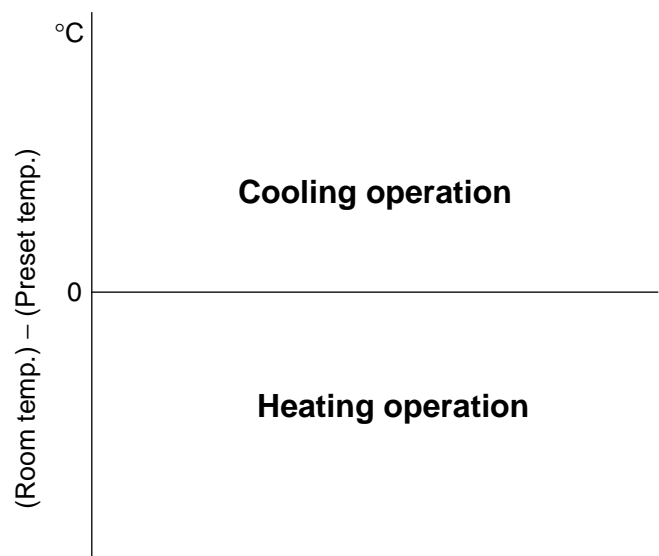

Fig. 7-3-11
- One of 3 operations (Cooling, Fan only or Heating) is selected according to difference between the preset temperature and the room temperature at which the automatic operation has started, as shown in Fig. 7-3-11. The Fan only operation continues until the room temperature reaches a level at which another mode is selected.
When the RESET button on the indoor unit is pushed, the preset temperature is fixed at 24°C and the indoor unit is controlled as shown in Fig. 7-3-11.